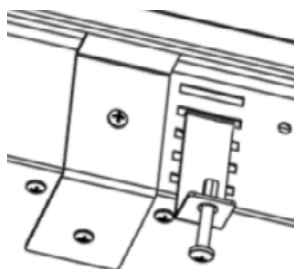

Figure 2
4. The appliance comes with connector brackets and long screws (5 each for RC30 series, 6 for RC36 series). Slide each bracket into the slots on the front and back of the unit, making sure to use the same mounting location to ensure the drop-in cooktop is level (see Figure 2). Mounting location will depend on how deep your cut-out is.